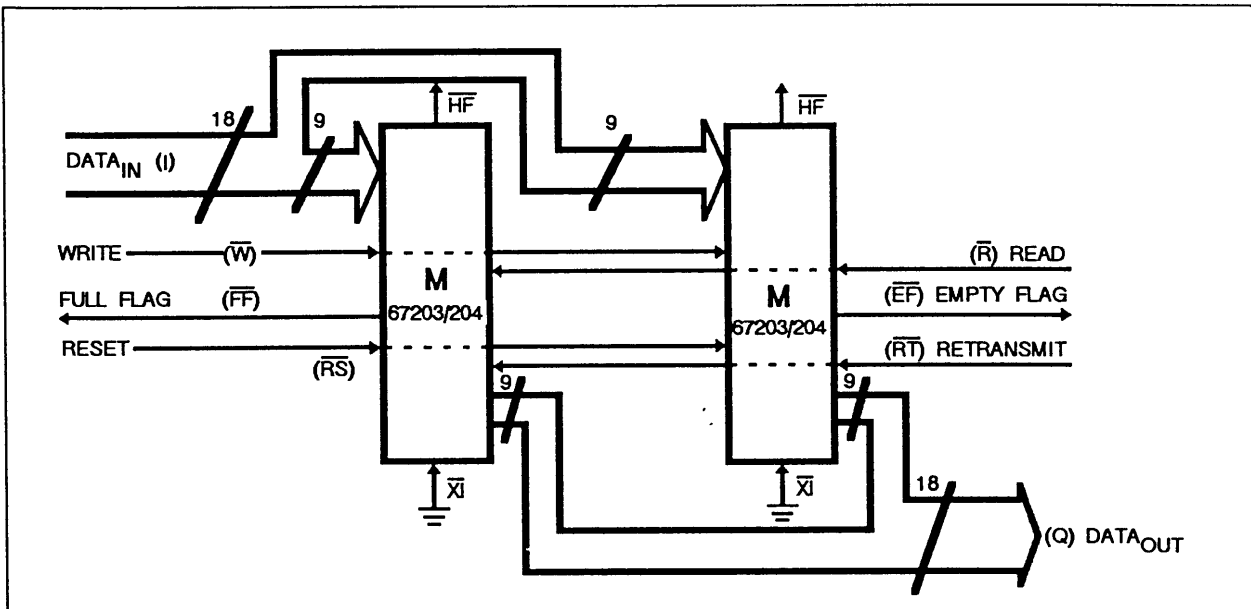

Figure 3 : Block Diagram of 2048/4096 x 18 FIFO Memory Used In Width Expansion Mode.
device. Figure 3 demonstrates an 18-bit word width by using two M 67203/204. Any word width can be attained by adding additional M 67203/204.
7. For Flag detection see section on Width Expansion and Figure 3.